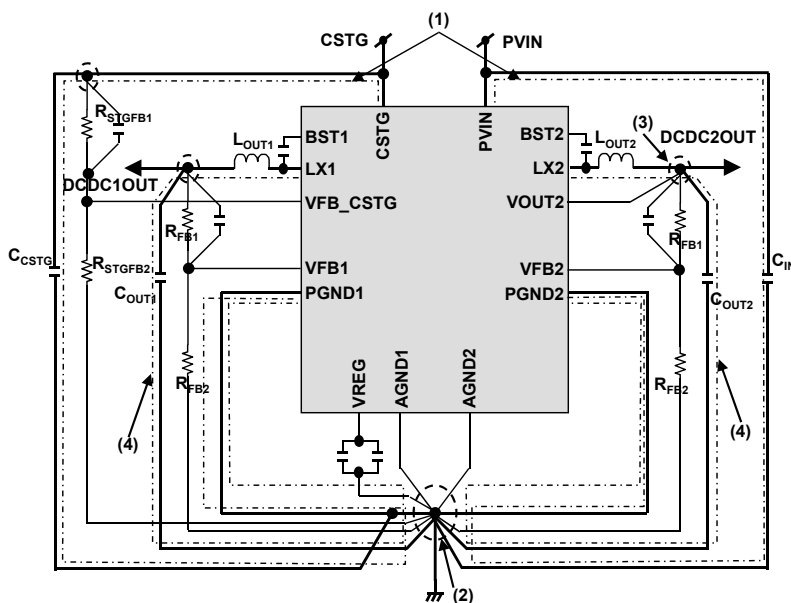

Figure A2-1 : Application circuit diagram
- (a) The Storage Capacitor C_{CSTG} of CH1 and Input capacitor C_{IN} of CH2 must be placed in such a way that the distance between CSTG and PGND1 of CH1 as well as PVIN and PGND2 of CH2 is minimum, in order to suppress the switching noise. Stray inductance and impedance should be reduced as indicated by loop (1) shown in the figure A2-1.
- (b) A single point ground connection (2) must be used to connect PGND and AGND to improve operation stability.
- (c) CH2 Output current line I_{OUT} and the output sense line VOUT2 must have small common impedance to reduce output load variations. Output sense line VOUT2 must be close to the output capacitor C_{OUT2} as indicated by (3) below.
- (d) Power Loss and output ripple voltage can be reduced by placing the inductor L_{OUT} and output capacitor C_{OUT} such that the stray inductance and the impedance of loop (4) is minimum. This is required by :
- ii) Reducing distance for output capacitor C_{out} between single ground point connection (2) and output connection (3) as shown in Figure A2-1.